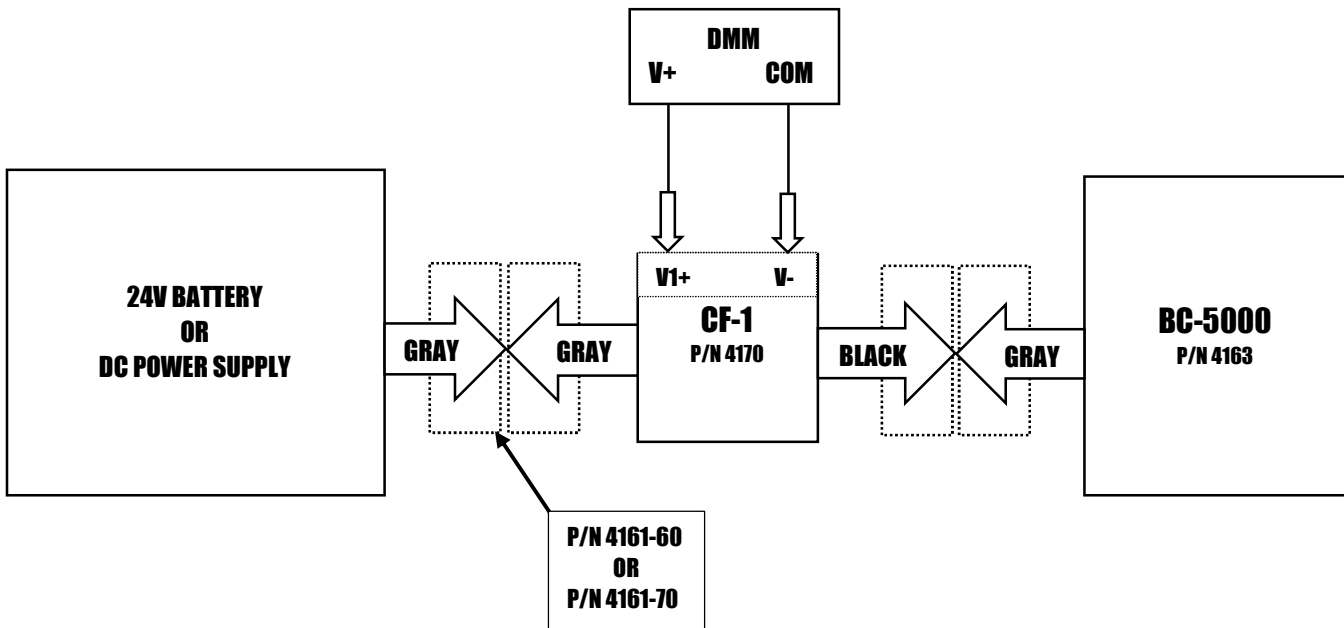

Figure 3
1. Connect the CF-1 GRAY connector labeled BATTERY to the 4161-60 or 4161-70 GRAY connector. See Figure 3.
3. Plug the BC-5000 GRAY connector into the CF-1 BLACK connector. See Figure 3.